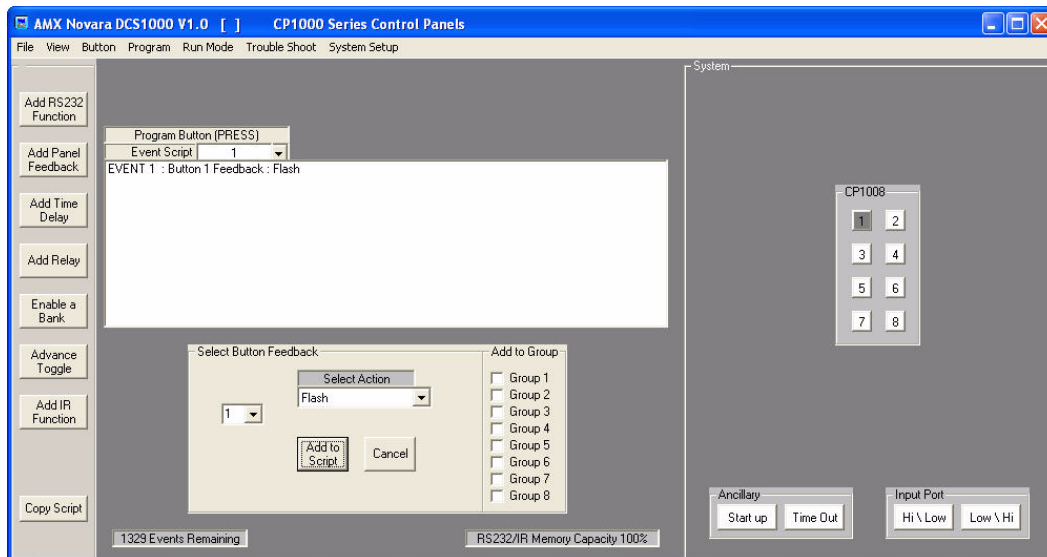

FIG. 53 Button 1 selected, "Flash" Button Feedback selected and added to Script as "Event 1"
1. Select a button, and add **Flash** feedback as Event 1 (FIG. 53).